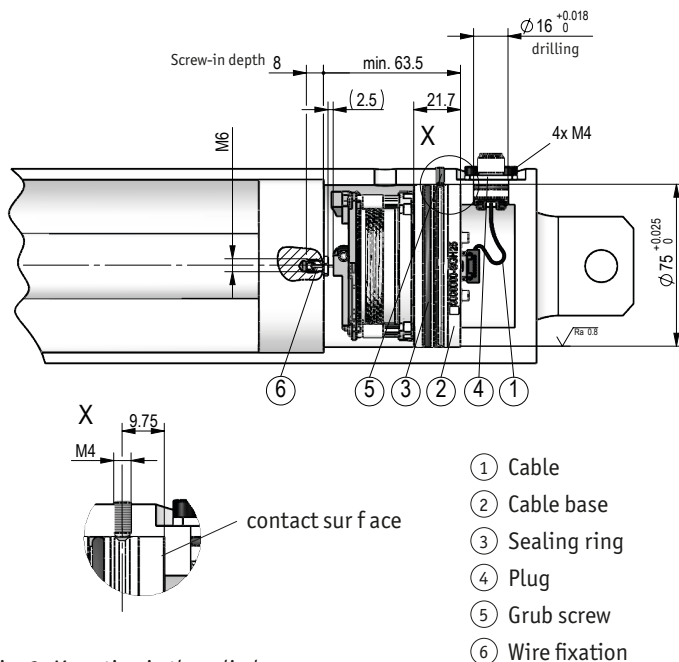

Fig. 3: Mounting in the cylinder
Mounting (Fig. 3):
1. Plug the cable ① without flange enclosures on the SGH25. When installing, the cable ① (e.g. KV1H) should be directed to the cable outlet from the bottom part of the cylinder.
2. Carefully press the SGH25 with greased sealing ring ③ into the the bottom part of the cylinder. Make care that the plug insert ④ and the cable won't be pinched, by pulling out the plug insert trough the plug outlet on the bottom part of the cylinder. Join the plug insert with the flange enclosures incl. greased O-ring and screw it 4x at the intended position. The axial fixing can be done with a securing bolt screw ⑤ as shown in fig. 3. Tighten the threaded pin slightly (approx. 0.5Nm) and then turn back again approx. 0.5 turns.
For detailed information on installation refer to chapter 4.1 (Fig. 3)